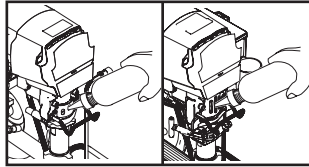

Fig. 13
6. Fill throat packing nut with TSL to premature packing wear. Do this each time you spray. (Fig. 13)